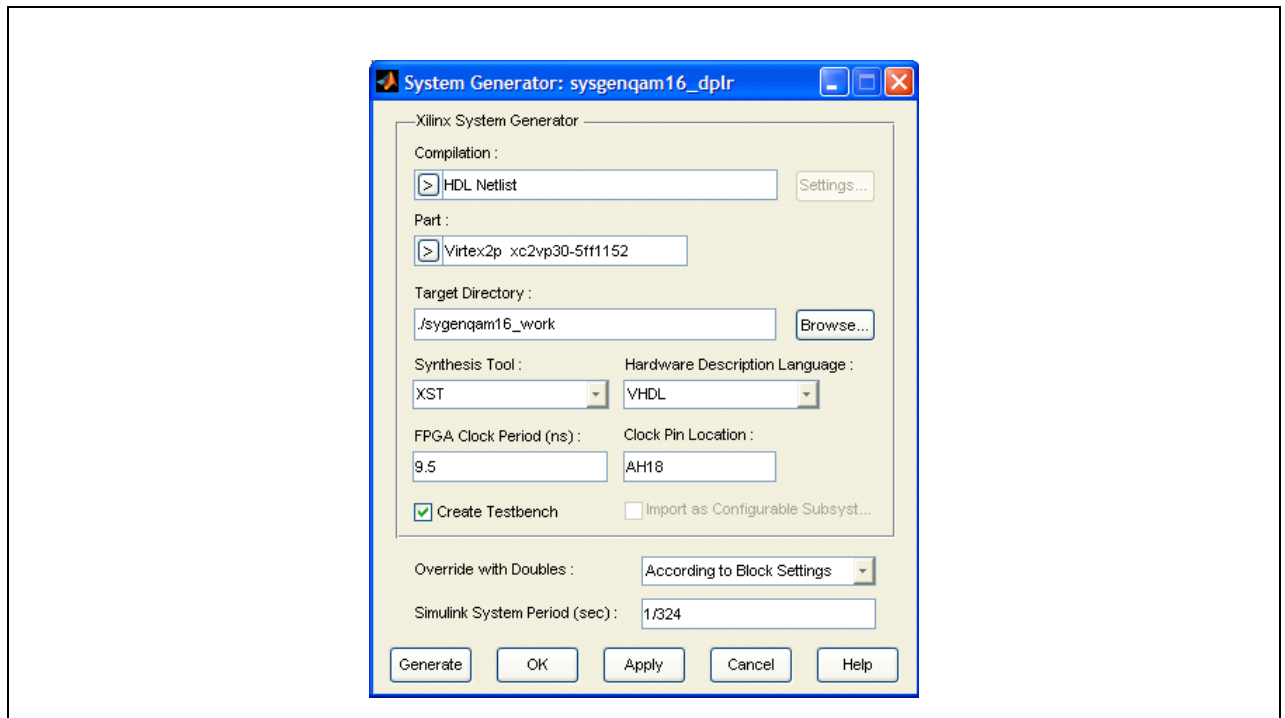

Figure 114: QAM System Generator Options
- Note the FPGA Clock Period setting (9.5ns in this case) as this determines how fast the design is capable of running if using a free running clock. The dialog box should then be similar to that shown in **Figure 114 on page 195**.